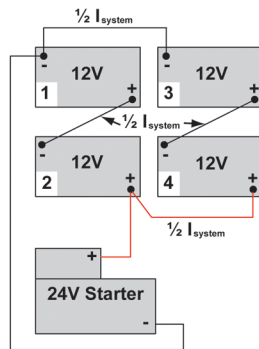

Figure 12-6: Series-Parallel Battery Connection Cables - Carried Current
- For batteries that are in series-parallel, the resistance of all connection cables must be multiplied by the fraction of amperage carried by the cable with respect to the total amperage of the system, before being added to the system resistance (see Figure 12-6).